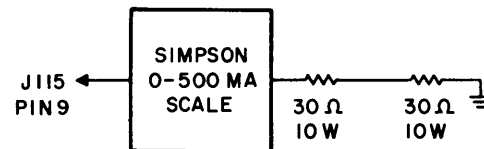

Figure 5-3. Power Supply Board Test Setup
c. POWER SUPPLY BOARDS Z303 AND Z304 (see figure 5-3). Align the power supply boards as follows:
- (1) Plug in ac line cord, STANDBY indicator shall illuminate amber.
- (2) Position ON/STANDBY switch to ON. POWER indicator shall illuminate red and STANDBY indicator shall extinguish.
(6) Connect voltmeter to J303-A. Voltmeter shall indicate approximately +40 vdc.
(7) Connect voltmeter between J303-F and ground. Adjust potentiometer R8 to obtain an indication of 12.0 vdc on voltmeter.
(8) Remove voltmeter from J303-F and connect oscilloscope. Maximum ac ripple shall not exceed 5 mv.
(9) Adjust potentiometer R3 until voltage level starts to drop, then back up slightly to obtain full voltage.
(10) Connect voltmeter between J303-4 and ground. Adjust potentiometer R18 to obtain an indication of 24.0 vdc on voltmeter.
(11) Remove voltmeter from J303-4 and connect oscilloscope. Maximum ac ripple shall not exceed 2 mv.
(12) Adjust potentiometer R12 until voltage level starts to drop, then back off to obtain full voltage.
(13) Connect voltmeter between J301-E and ground. Voltmeter shall indicate +30 vdc \pm 1 vdc.
(14) Position ON/STANDBY switch to STANDBY.
(15) Position METER switch to Q1.
(16) Connect ammeter to J115-9 as shown in figure 5-3.
(17) Adjust potentiometer R106 (located at rear of METER switch) for an equal indication on MONITOR meter and voltmeter.